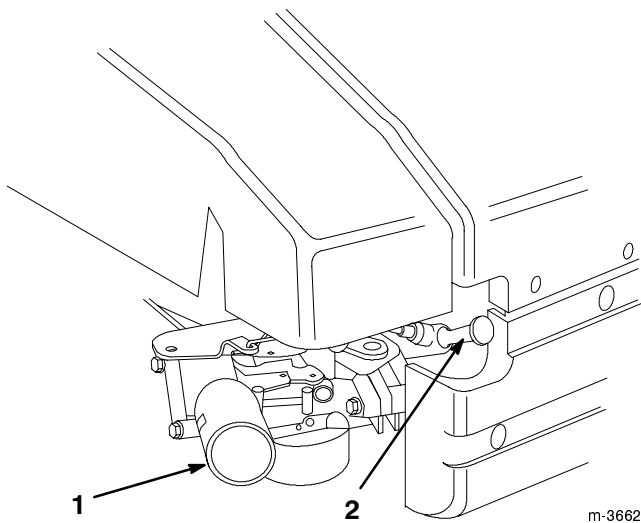

Figure 12
1. Connect the wire to the spark plug (Fig. 12).
4. Push the primer three times, waiting two seconds between each push (Fig. 12).